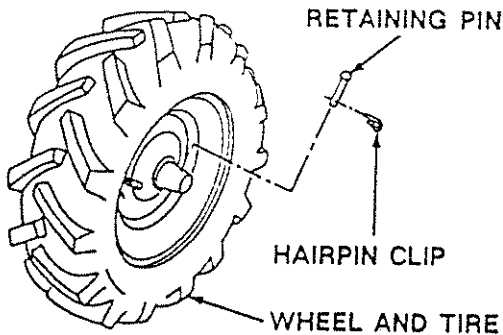

FIGURE 27
- c. Removing Wheel and Tire for repair (Fig. 27).